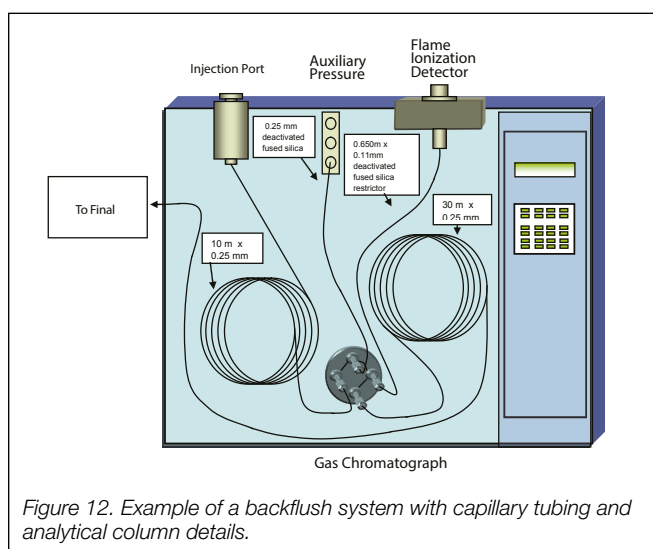

Figure 12. Example of a backflush system with capillary tubing and analytical column details.
This system uses two detectors. A flame ionization detector (FID) and a mass spectrometer (MS). A 30 meter analytical column is connected to the midpoint four port SilFlow and the MS (see Figure 12).